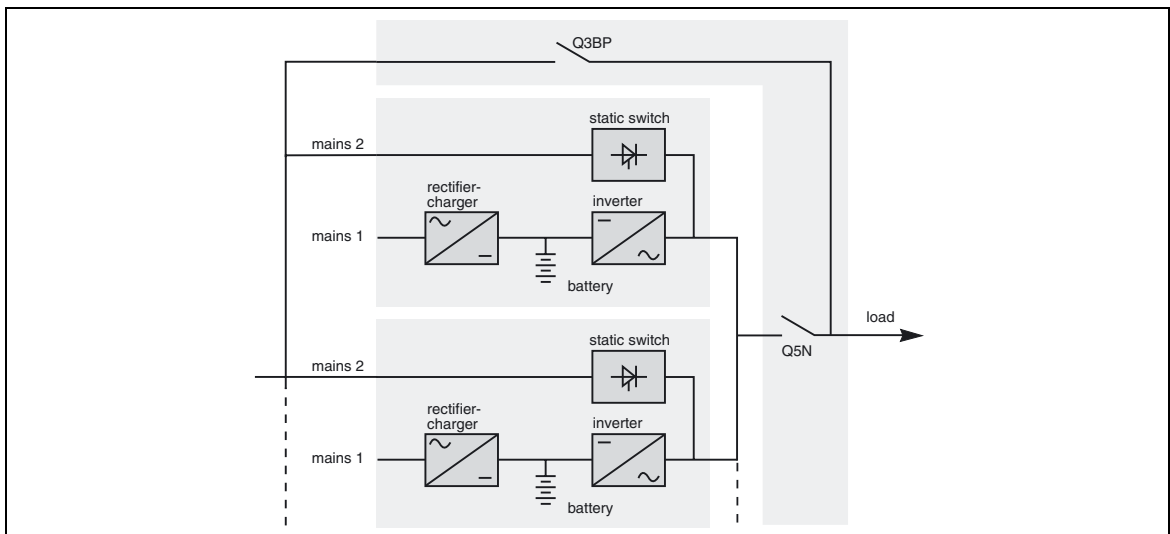

Fig. 3
- Modular UPSs with external maintenance bypass: (figure 3)